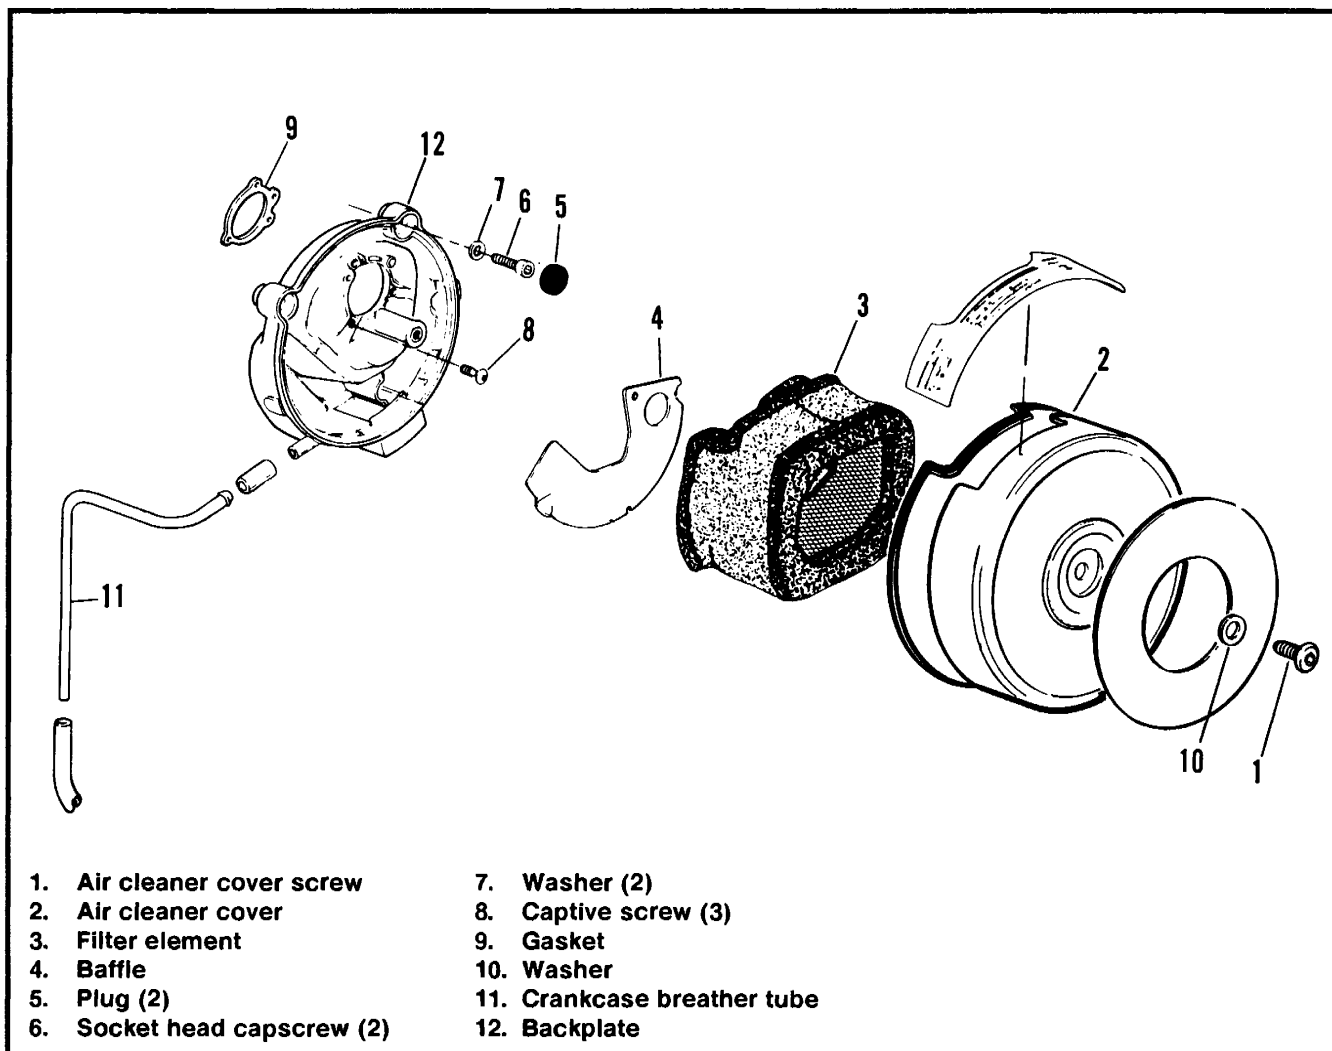

Figure 4-29. Air Cleaner - 1990
7. See Figure 4-29. Install air cleaner backplate following procedure "**INSTALLATION (Figure 4-29)**" steps 1 through 7 in this section.
REMOVAL (Figure 4-29)
INSTALLATION (Figure 4-29)